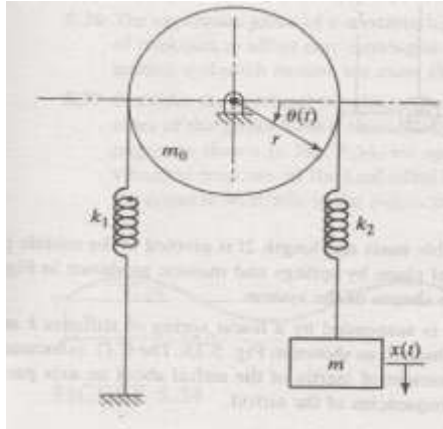

Fig: 2
10. Derive the expression for natural frequency of a single degree of freedom system shown in Fig 2.